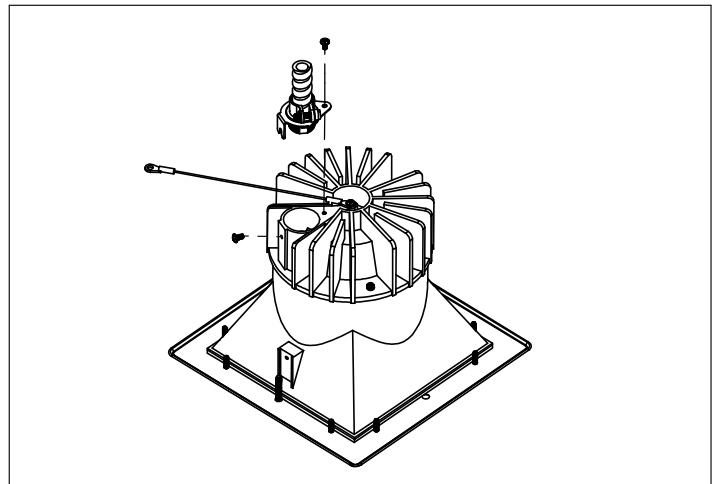

Figure 6
6. Make all necessary electrical connections in Flex Whip and then fasten it and lanyard to Downlight Module. (Fig. 6)